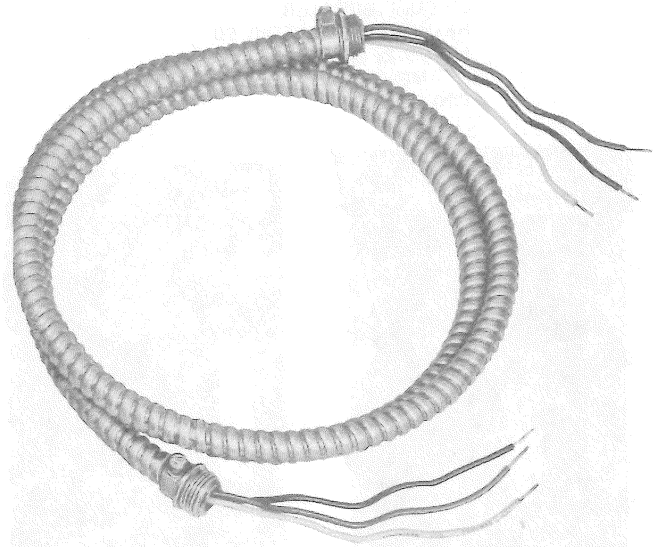

Fig. 5—KS-19425, List 24 Power Cable Assembly
- (b) ***KS-19425, List 24 power cable assembly (Fig. 5):*** Used to bring power from the KS-19426, List 17 circuit breaker box to the electrical receptacle located above the ceiling.